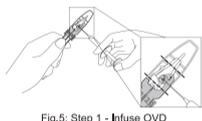

Fig.5: Step 1 - Infuse OVD
- Infuse the sodium hyaluronate OVD into the injector through the infusion port (Fig.5). Fill up the area indicated by the dotted lines in Fig.5 with the OVD, and confirm the OVD has reached the entire optic.